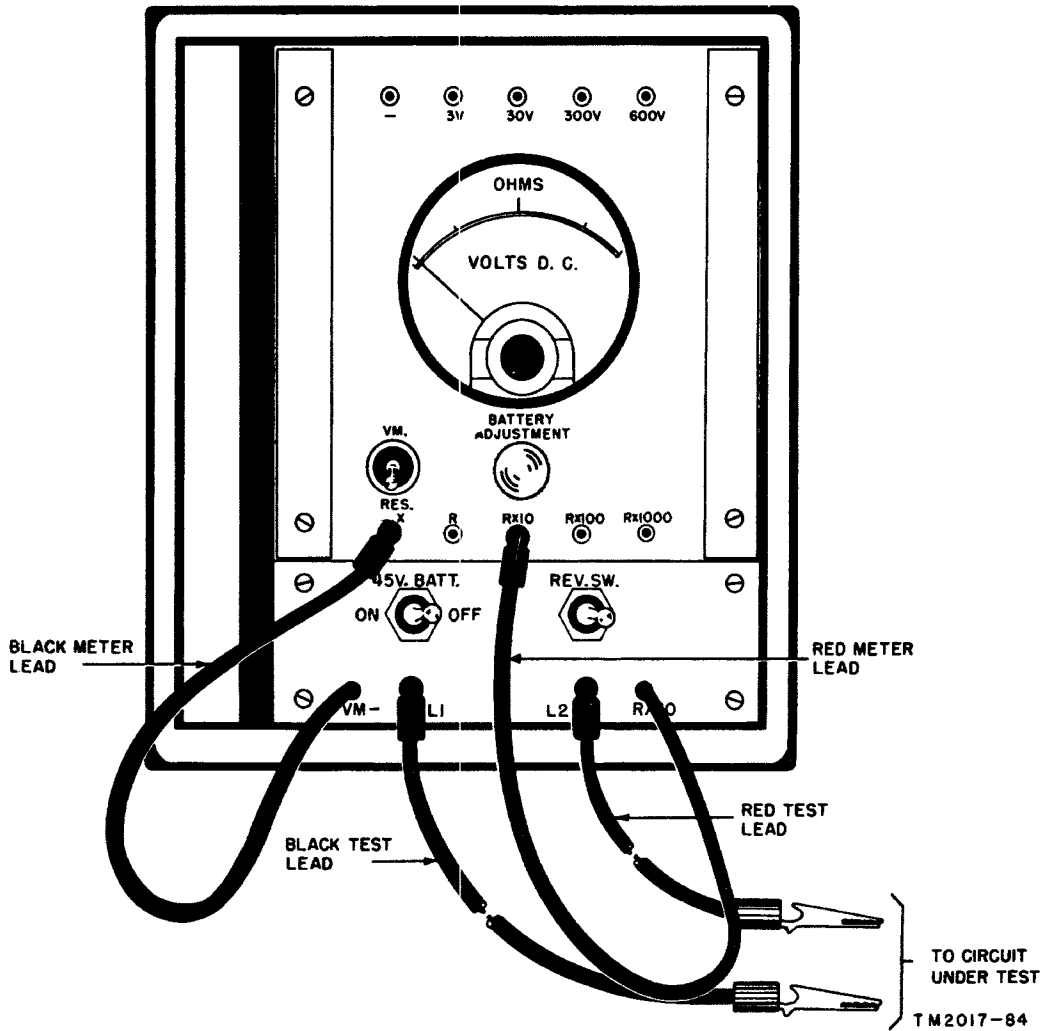

Figure 16. Test Set TS-26(\*)/TSM, arranged for measurements 0 and 10,000 ohms.
- (b) RX10 jack for measurements between 0 and 10,000 ohms (fig. 16).
- (2) If the 0- to 10,000-ohm range is being used (fig. 16), multiply the reading on the OHMS scale by 10. In this case, the resistance is 10 x 20 or 200 ohms.